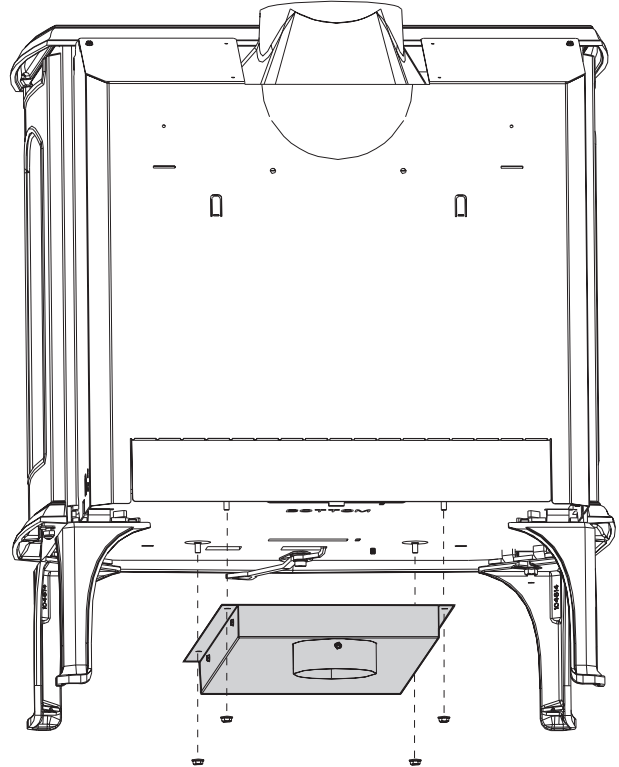

Figure 23. Outside Air Adaptor installation.
- Outside Air Manifold (fig. 23)